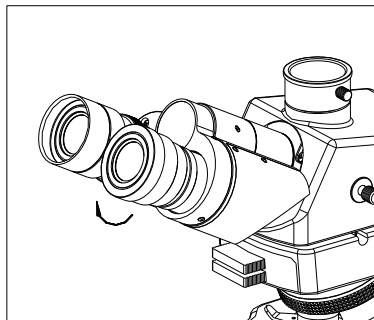

Fig. 22
- (1) Turn over the eye-cap if the user is wearing glasses, so that it can prevent the glasses touching the eyepieces and avoid damaging to both glasses and eyepieces.
- (2) Open the eye-cap if the user doesn't wear glasses, so that it can prevent stray light disturbing the observation. (See Fig. 22)